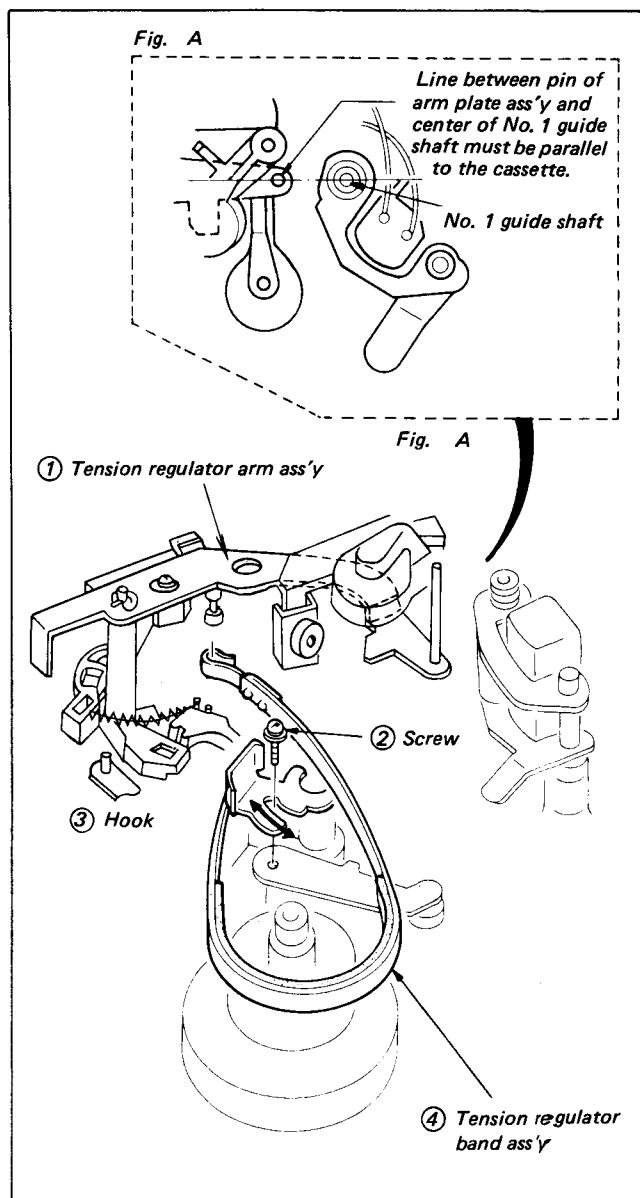

Fig. 3-4.
- (1) The tension regulator band assembly can be removed after removing screw ① and hook ② shown in Fig. 3-4.
- (2) Perform the tension regulator FWD position adjustment described below after the replacement.
- (iii) Move the brake band in the direction of an arrow as shown in Fig. 3-4 and tighten the screw at the position where state shown in (A) can be set up.